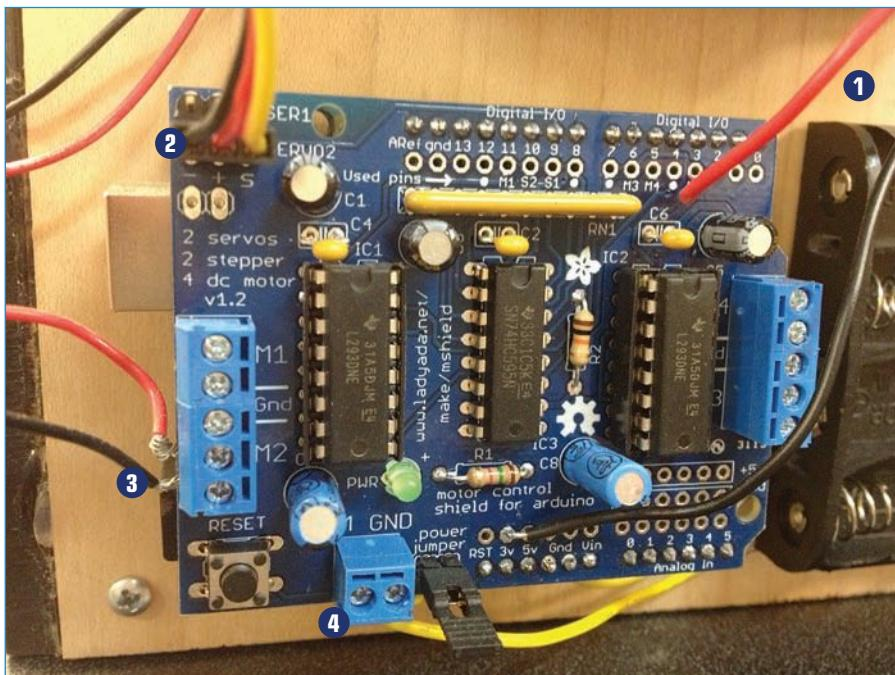

FIGURE 13.17 The motor shield controls your BubbleBot.
Attach the Arduino to the back panel using the 1" #4 screws, and then mount the Adafruit motor shield to the Arduino by inserting the pins of the shield into the Arduino's headers. Wire up the shield, following along with Figure 13.17.
- ➎ Hot glue the 9V battery pack (not shown in Figure 13.17) to the chassis and connect the plug to the Arduino's power plug. This will power the Arduino.